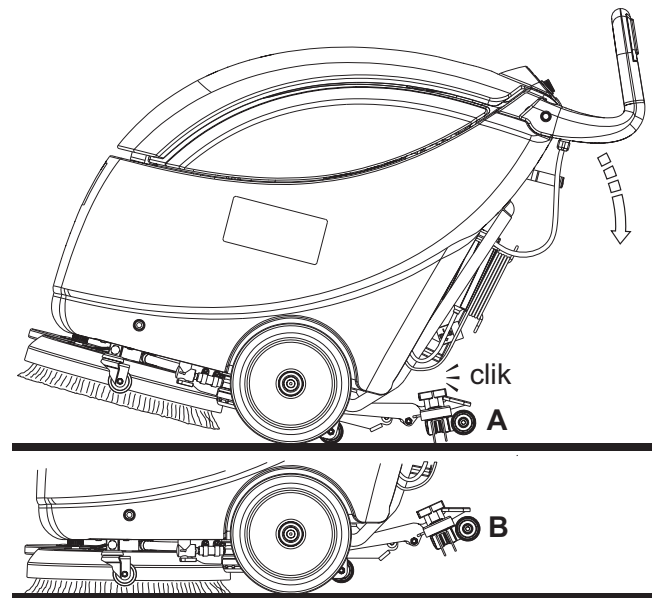

Figure 1
1. Grasp the handlebar (2), lower it until the rear wheel (7) touches the floor (A, Fig. 1) then engage the squeegee in lifted position (B).